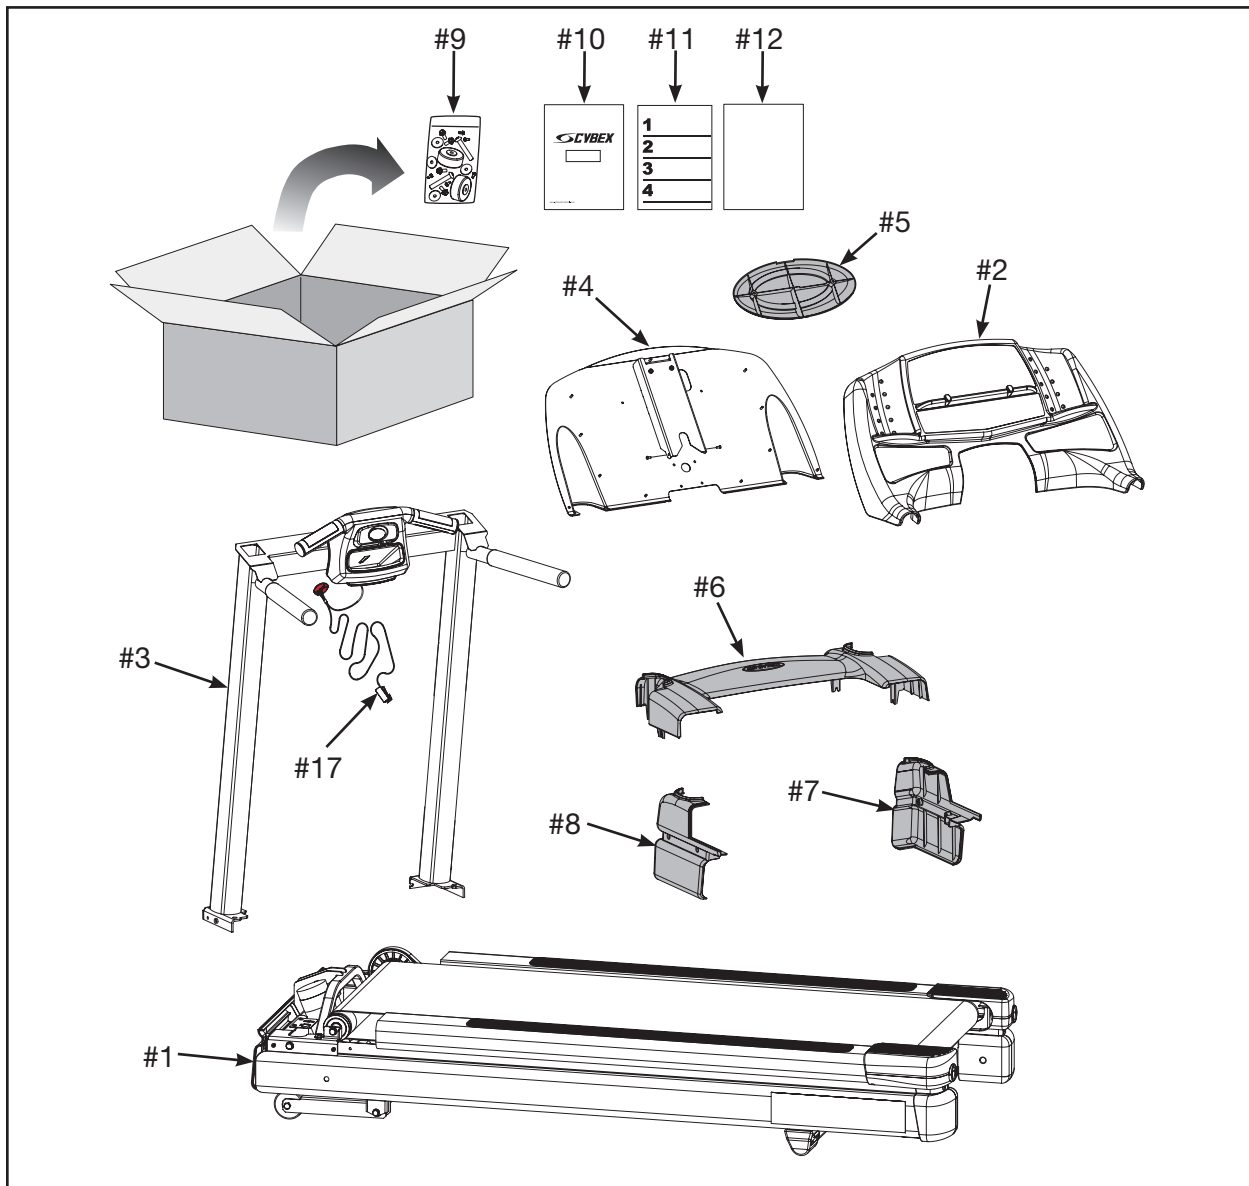

Figure 1
- B.** Check to be sure that the following items are present. Check off () each item as you find it. See Figure 1. If any of the parts are missing contact Cybex Customer Service.